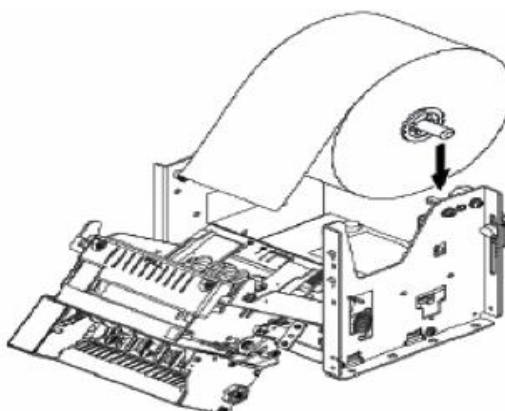

Figure 83. Printer paper direction
- Insert the new paper roll into its position. Ensure the paper feed direction over the spool matches the direction shown in Figure 83